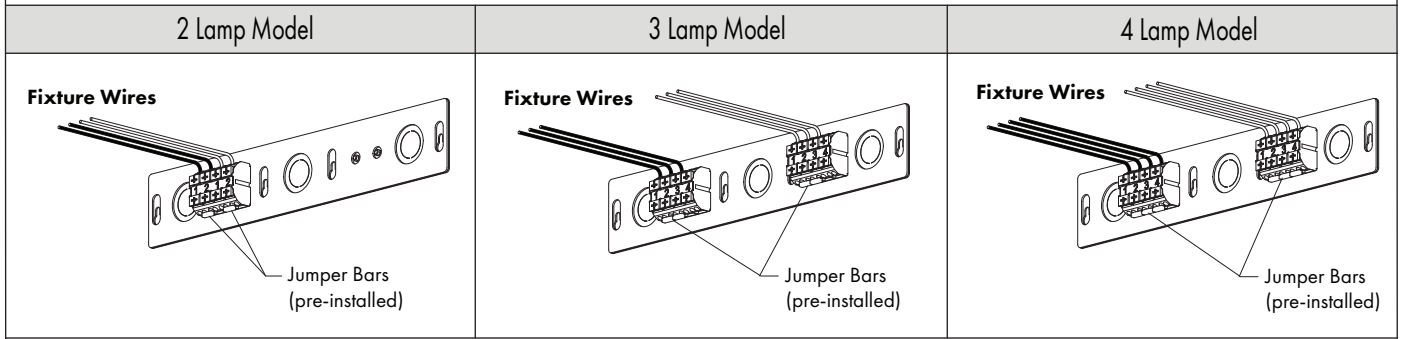

FIG 6.1 Jumper Bars
1. Ensure jumper bars are installed in terminal blocks as shown - FIG 6.1.